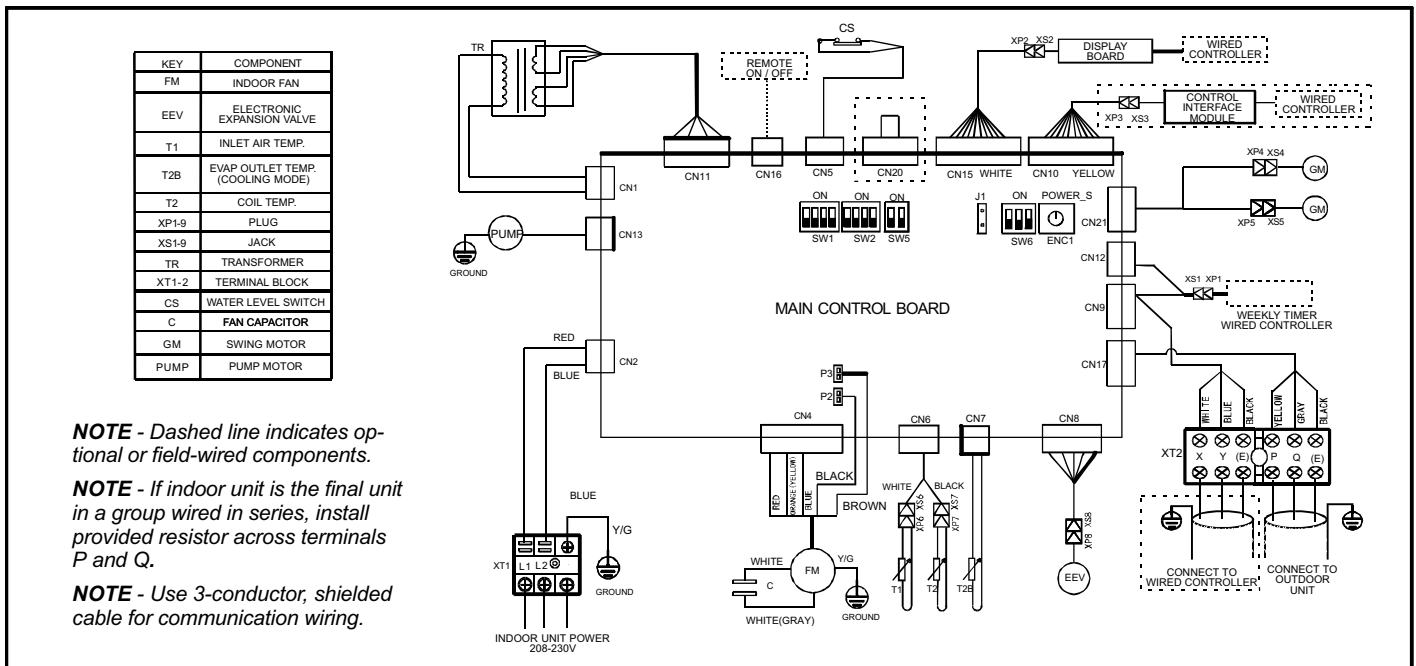

Figure 12. Typical V33A Wiring Diagram
- 2 - Locate the terminal strip in the control box. Connect the power wiring (sized per NEC/CEC and local codes) and communications cable (**three-conductor, shielded cable**) per figure 12. Refer to unit nameplate for rated voltage.